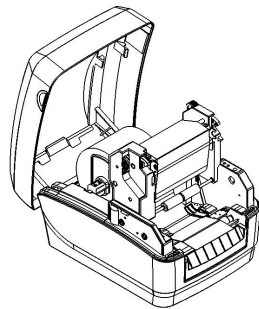

Figure 2.5.2
- 4) Toggle the ribbon thumb wheel to make sure the ribbon is tight. (See figure 2.5.2 for the mounted paper roll and ribbon)